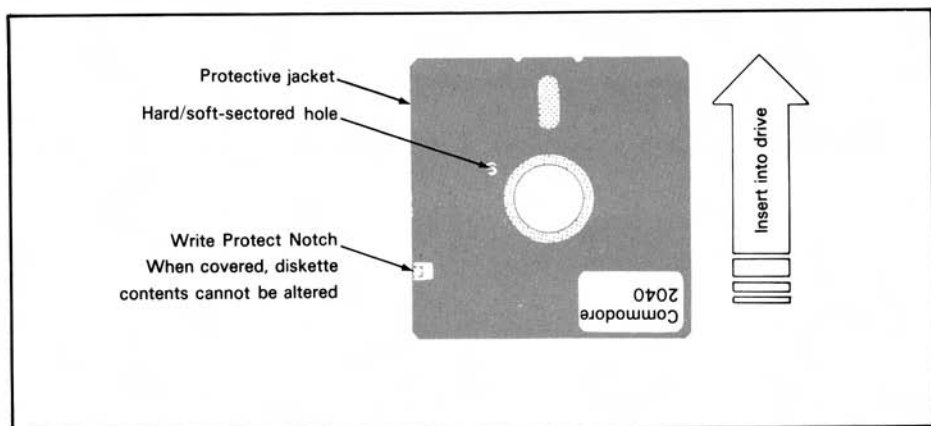
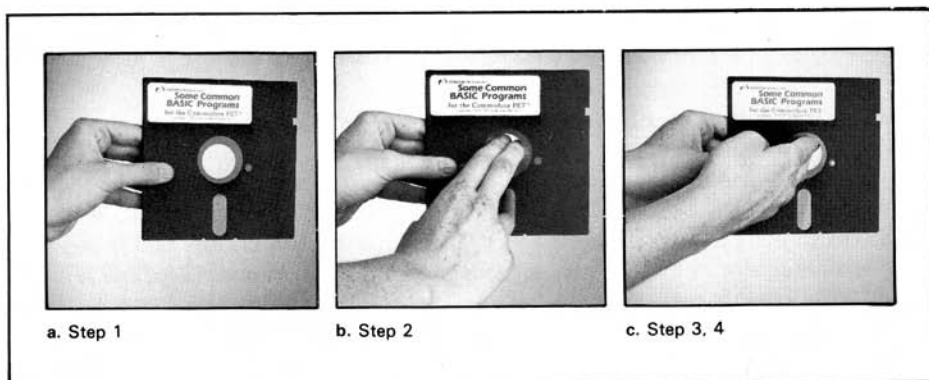

Figure 1-23. Floppy Diskette
Figure 1-24. Test for Soft-Sectored Diskette
The circular diskette is held in a square protective jacket as shown in Figure 1-23. This jacket guards the diskette from foreign substances and breakage or bending. *Do not remove the jacket. When buying diskettes for any CBM computer, buy soft-sectored 5-1/4" diskettes.* If you are unsure whether your diskette is soft-sectored, here is a simple test (see Figure 1-24):
3. Locate the small hole next to the center hole (see Figure 1-23).